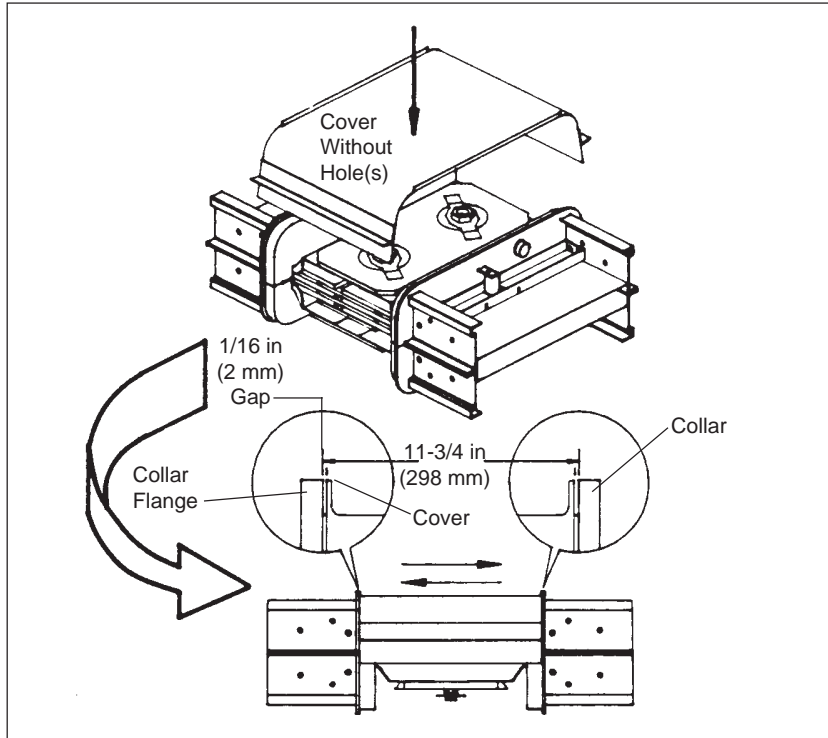

Figure 2
2. Align the joint using the cover (figure 2).
Use the cover without the hole(s) for alignment. Check the dimensions shown in figure 2. Allow a 1/16 in (2 mm) gap between the cover and the collar flange. (Leave the top cover on to aid in subsequent steps).
To ensure the proper alignment shown in figure 2, leave the cover on while tightening joint bolts. Torque with an 18 in (457 mm) or longer handle socket wrench until the outer VISI-TITE® bolt head twists off and the red disc falls away. Remove the cover.